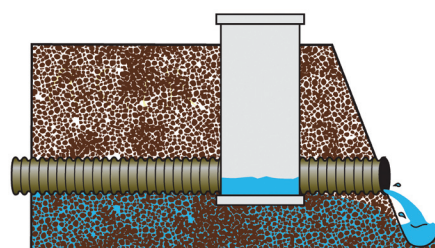

Figure 2. The outlet is lowered a few weeks before planting and harvest to allow the field to drain more fully.
- Lowered in early spring and again in the fall so the drain can flow freely before field operations such as planting or harvest. (Figure 2)